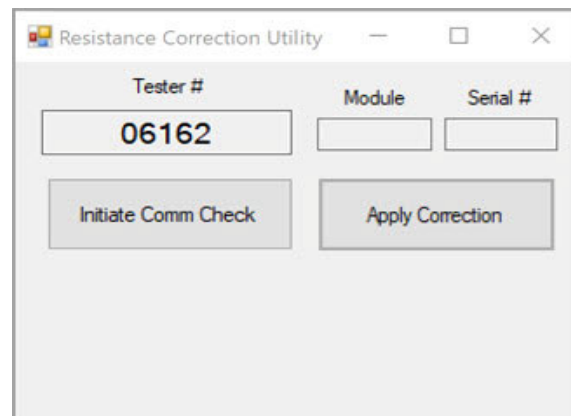

Figure 3
8. Successful communication is indicated by the illumination of the LED light surrounding the MCE test lead connector on the MCE tester and the tester number displaying in the Tester # text box. Shown in Figure 3.